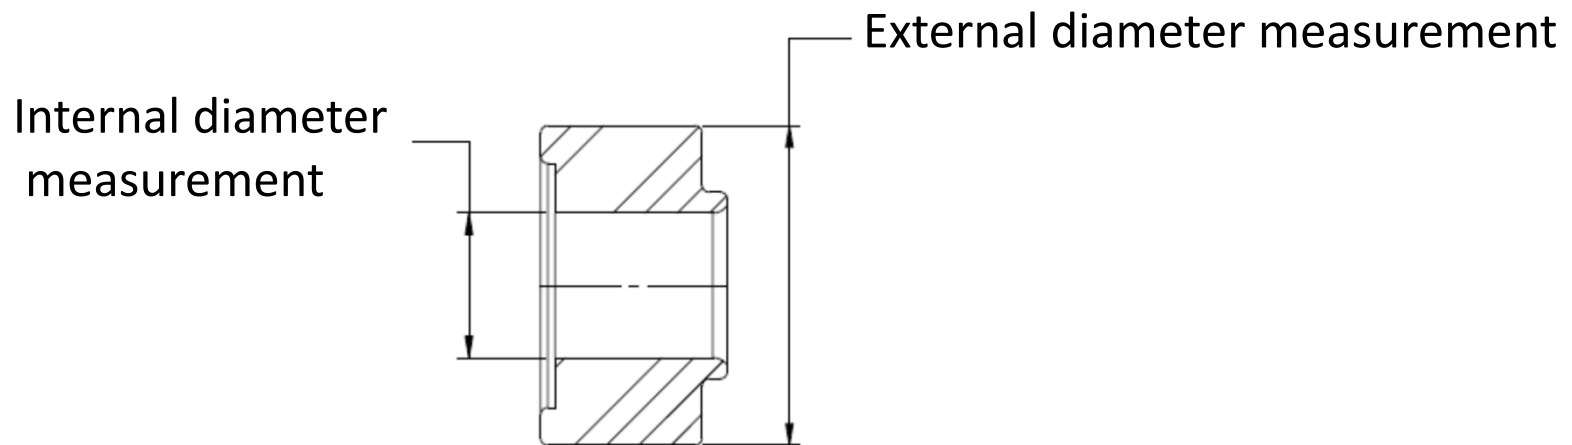

Figure 26
- The external diameter must be bigger than 21 mm (see figure 26)
- The internal diameter must be smaller than 10.5 mm (see figure 26)